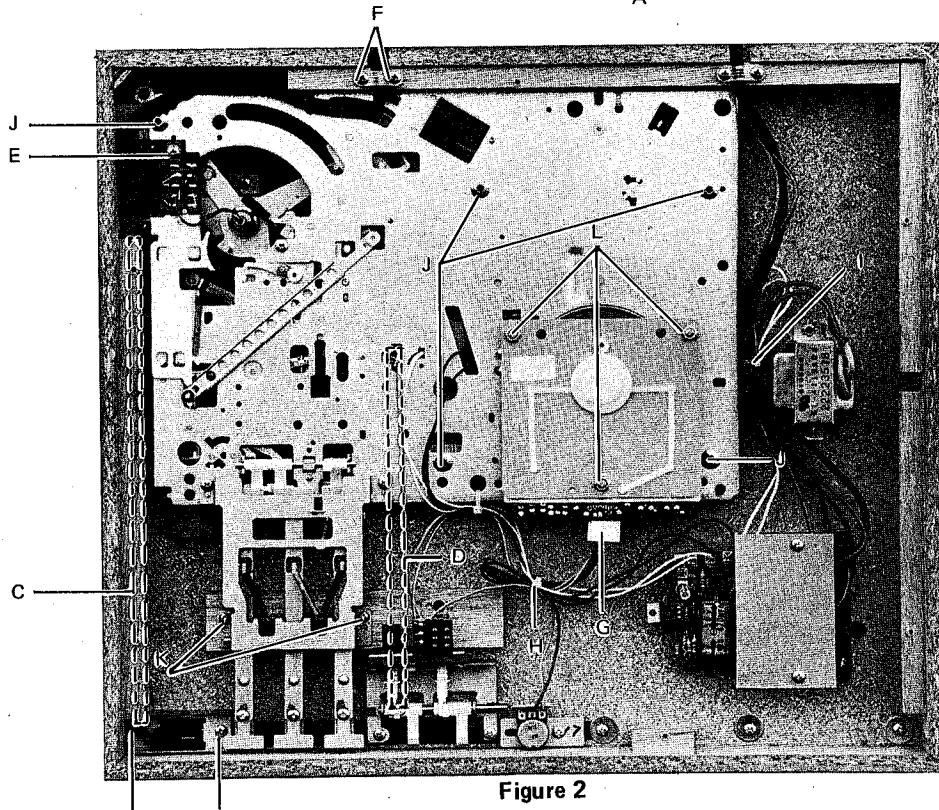

Figure 2
2. Chassis Assembly Removal (Figure 2)
3. Motor Removal (Figure 2)